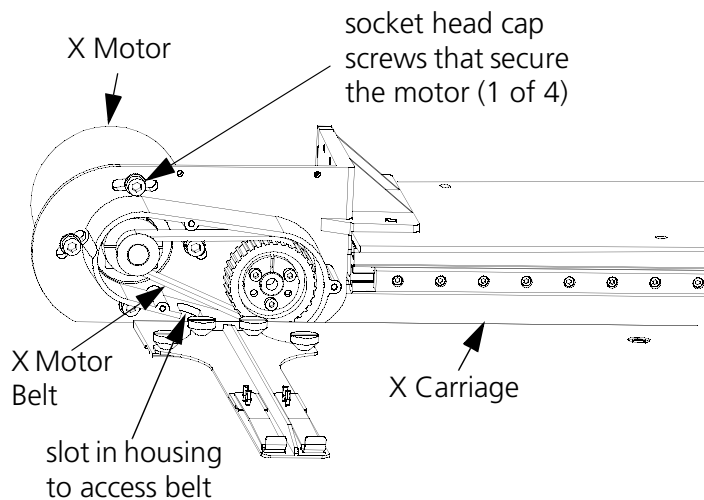

Figure 6-1
4. Refer to Figure 6-1 and loosen the four socket head cap screws that secure the motor to the motor housing. Loosening the screws will allow the belt to become slack.
NOTE: As shown in Figure 6-1, a slot is located in the lower part of the housing belt shroud for accessing the midpoint of the belt with the Breco meter.